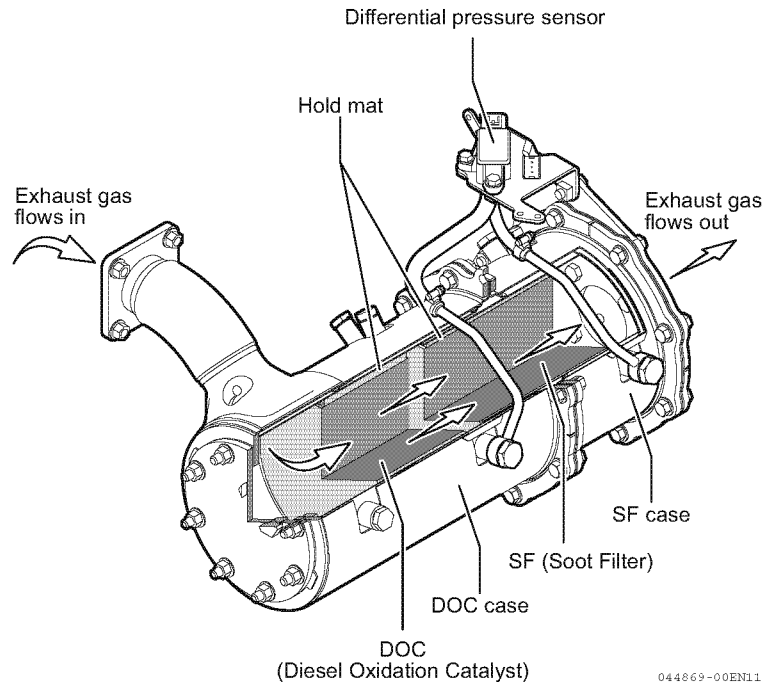

Fig.25-2
The DPF consists of the Diesel Oxidation Catalyst (DOC) and the Soot Filter (SF), held by a case that sends the exhaust gas to the DOC and SF. (See Fig.25-2)